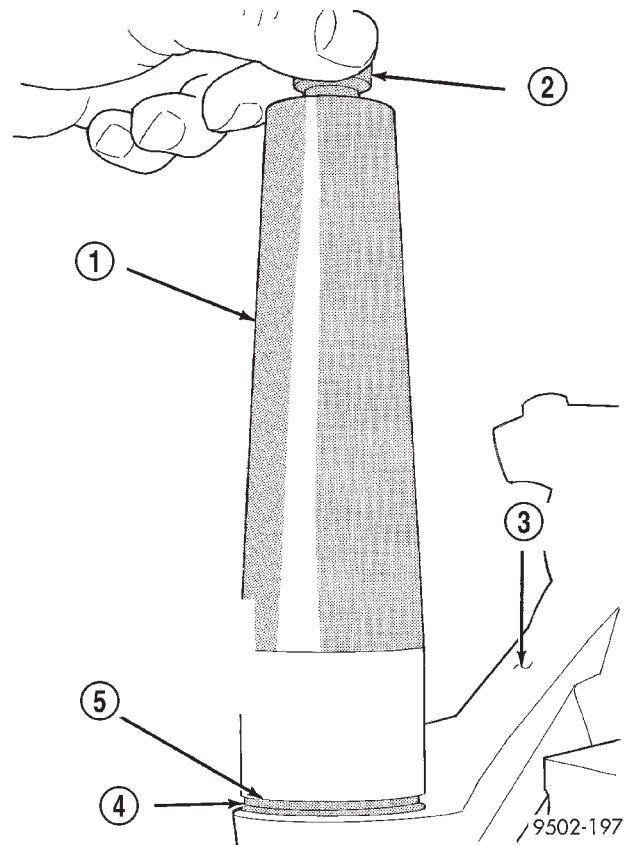

Fig. 76 Correctly Installed Ball Joint Seal Retaining Ring Tool
(3) Carefully position ball joint seal boot in seal retaining groove on lower control arm. After installing seal boot in retaining groove, carefully bleed air out of sealing boot without getting grease pushed into seal boot retaining groove in lower control arm.
(4) Place Retaining Ring Installer, Special Tool, 6875-1 over ball joint seal boot (Fig. 76). Using adjusting knob, adjust tool so bottom edge of tool is even with top of retaining ring groove in seal boot (Fig. 76).